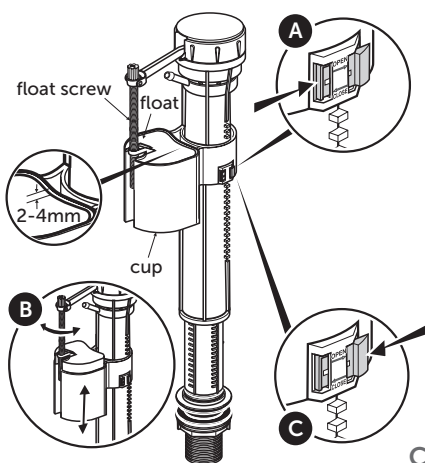

Fig. 8
- Release locking device in direction shown, (Fig. 8).